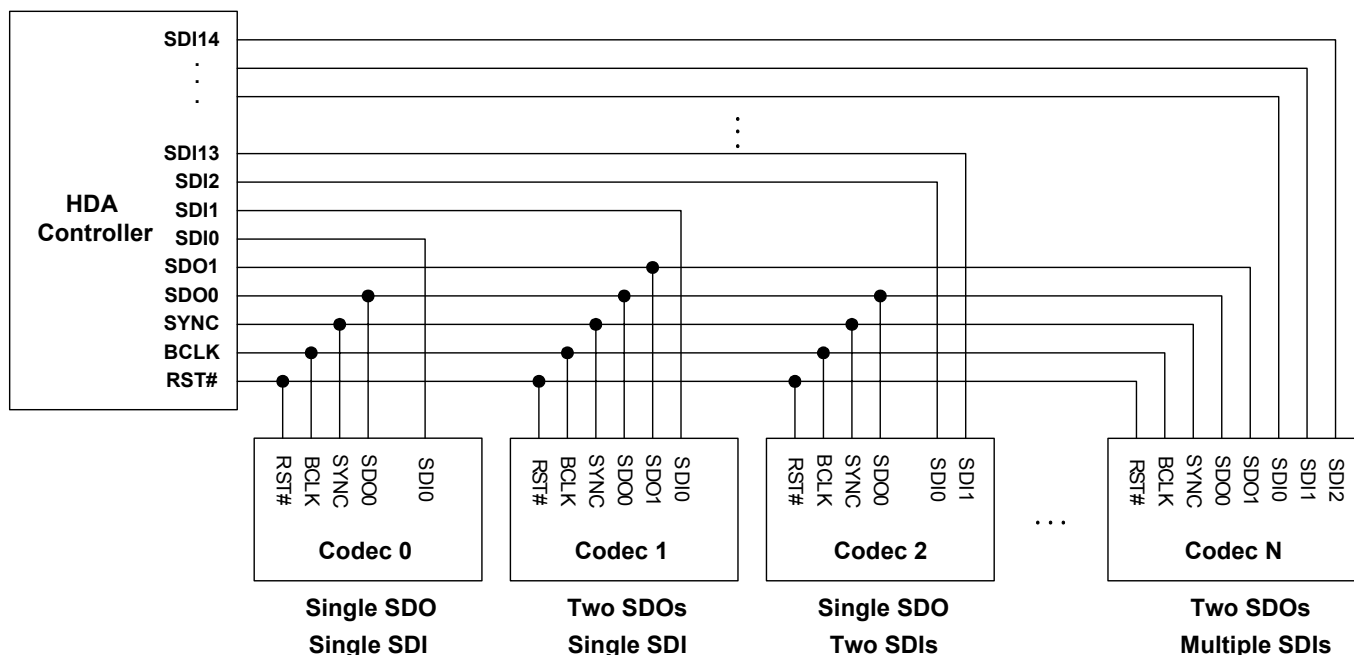

Figure 7. Signaling Topology
Figure 7 shows the possible connections between the HDA controller and codecs:
The connections shown in Figure 7 can be implemented concurrently in an HDA system. The ALC888S(DD) is designed to receive a single SDO stream.